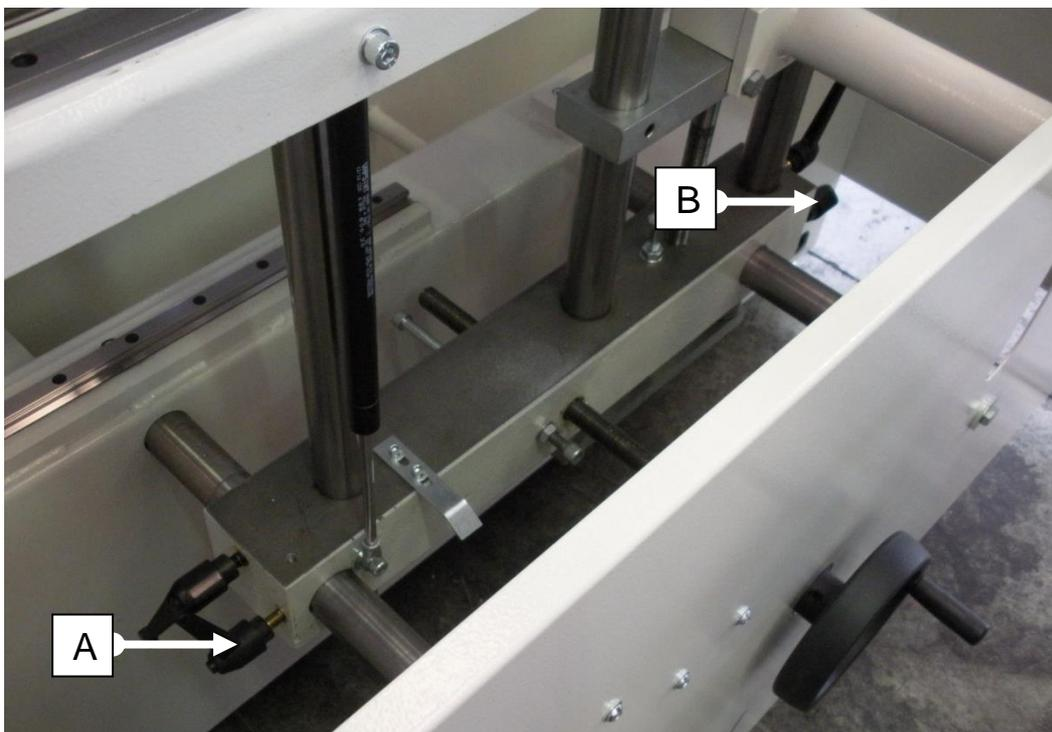

FIG.12A
- Loosen jumper lift A and B (Fig.12A).
- Lock jumper lifts A and B (Fig.12A)